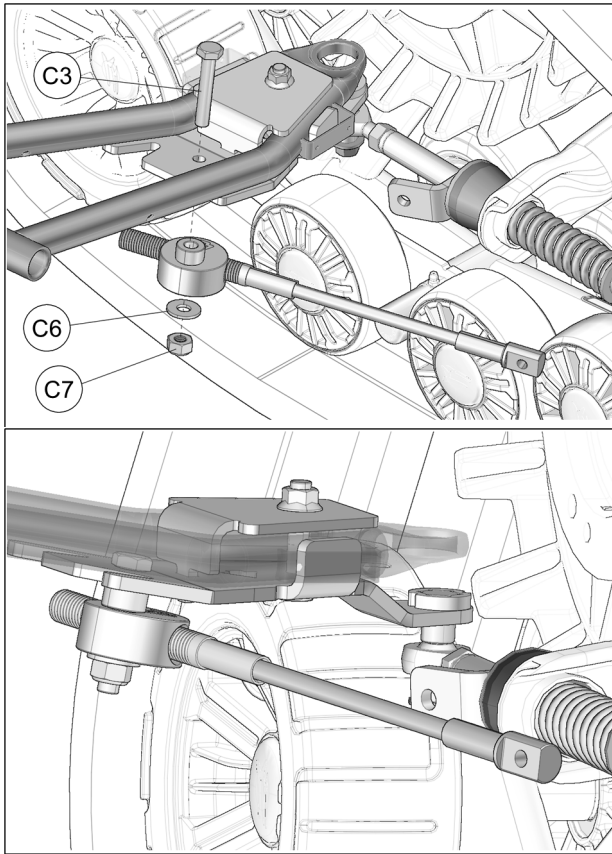

Fig. 23
12. Attach steering limiter cable assembly under anchor bracket using bolt (C3) inserted at the back of the bracket, washer (C6) and nut (C7). Tighten nut to 50 N•m [37 lb•ft]. Refer to Fig. 23